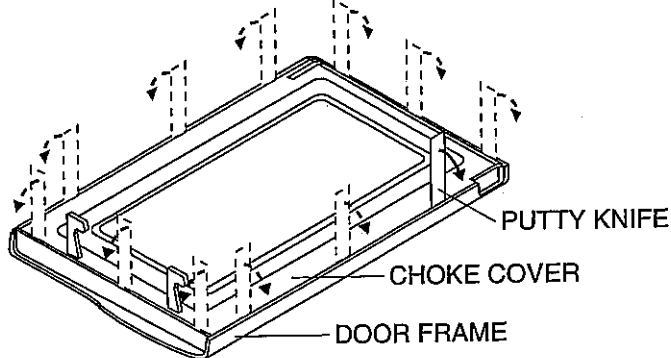

Figure C-7. Door Disassembly
3. Insert an putty knife (thickness of about 0.5mm) into the gap between the choke cover and door frame as shown in Figure C-7 to free engaging parts.